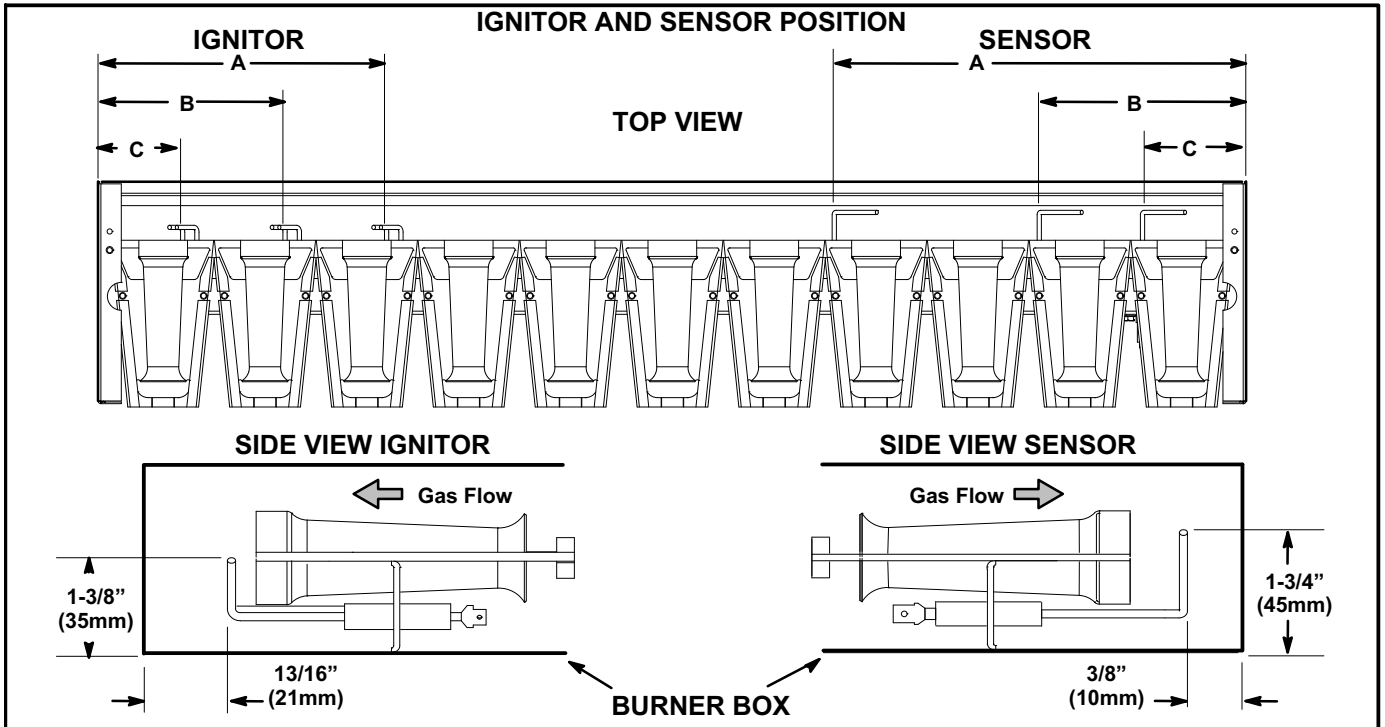

FIGURE 43
- 5- Check the alignment of the ignitor and the sensor as shown in figure 43 and table 22.